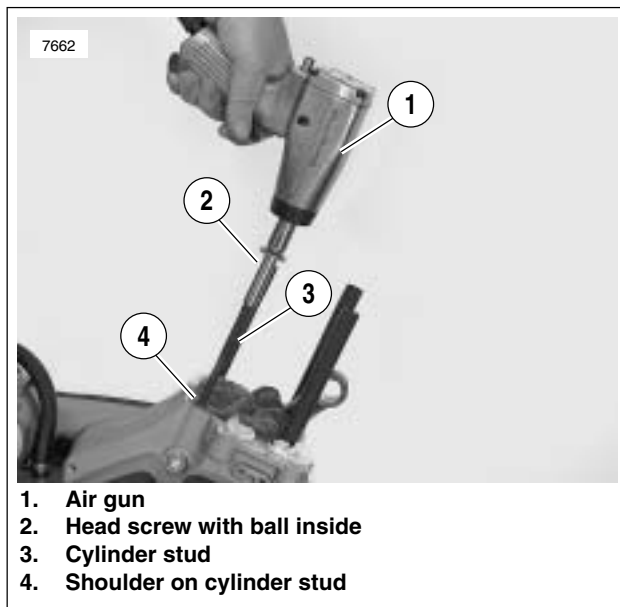

Figure 3-133. Cylinder Studs
15. See Figure 3-133. Install cylinder studs.